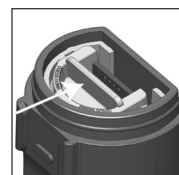

Fig. 2: Push to unlock
2. To remove the battery plate, push the center tab towards the front of the tester as shown in Figure 2. Once unlocked, remove the plate to access the batteries.